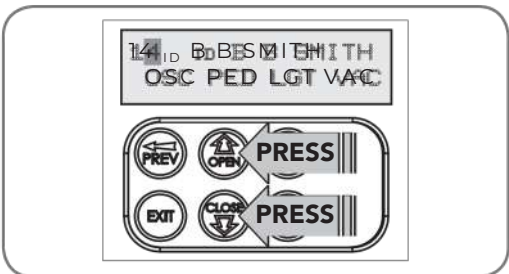

Fig H.3
- a.PresstheUP orDOWN arrows to navigate through the list (Fig. H.3).